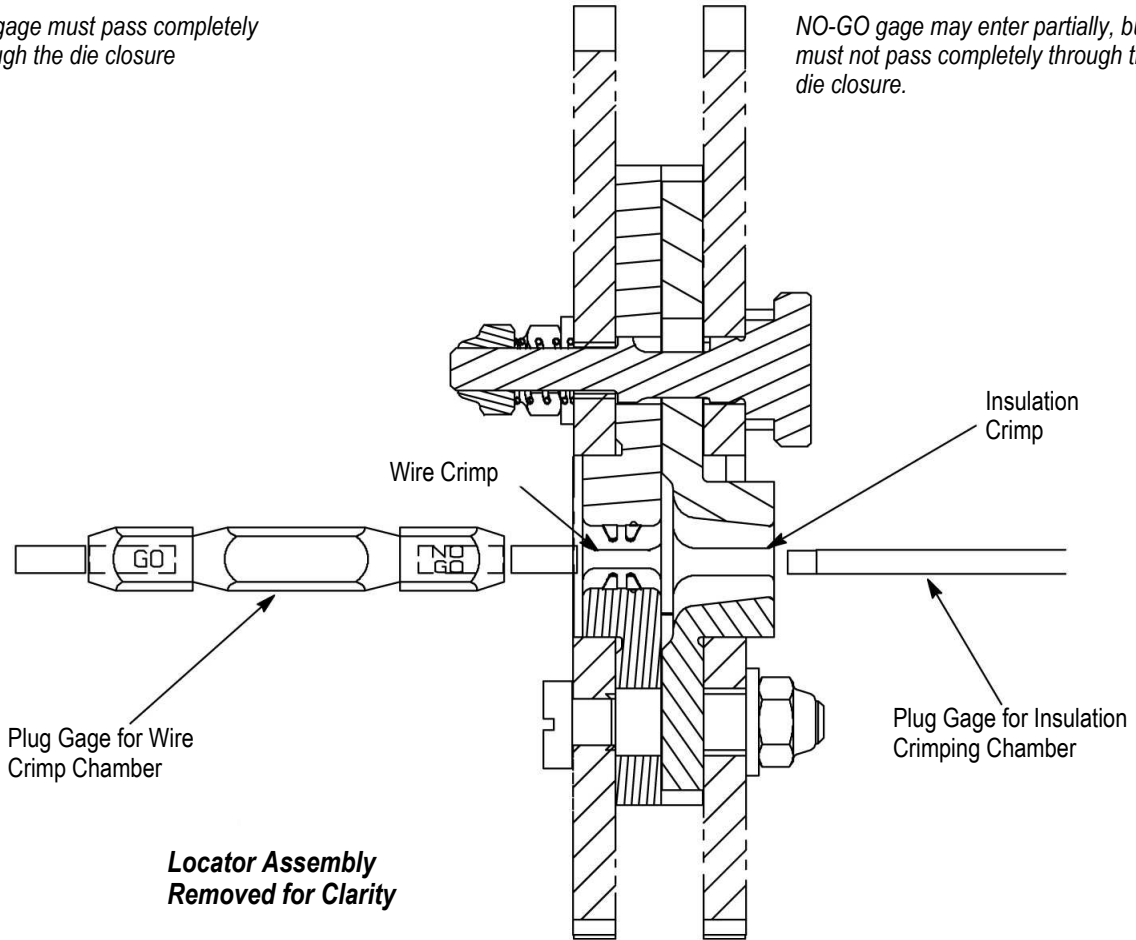

Figure 8
To gage the crimping area(s), refer to Figure 8 and proceed as follows:
3. With wire barrel dies bottomed, inspect the wire barrel crimping chamber using the proper plug gage. Lift the spring-loaded locator up and hold gage in straight alignment with the crimping chamber. Carefully try to insert, without forcing, the GO element. See Figure 8. The GO element must pass completely through the crimping area.
5. Set insulation adjustment indicator in Position 1. Measure insulation crimping chambers with the proper GO plug gages in the same manner as Steps 2 and 3. See Figure 8.
6. With the insulation adjustment indicator in Position 1, measure the insulation crimping chambers with the proper NO-GO plug gages. See Figure 8.